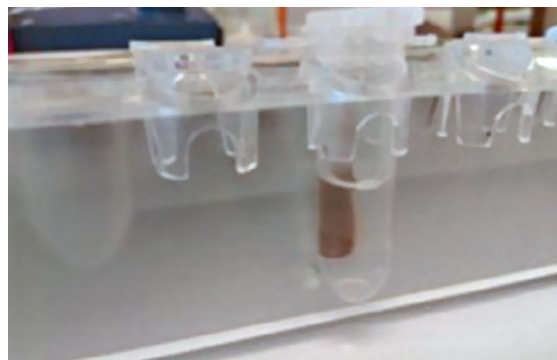

Figure 4. Washing the microspheres (step 3)
3. Place the tube on the magnetic stand for 2 minutes and decant the supernatant (**Figure 4**).